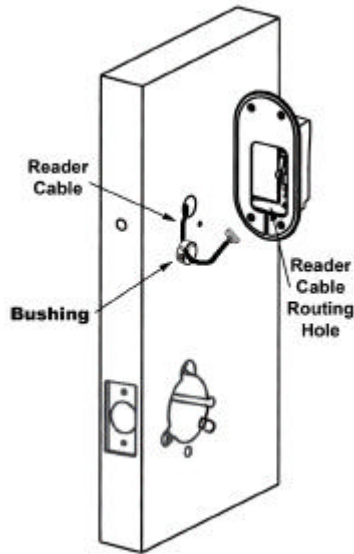
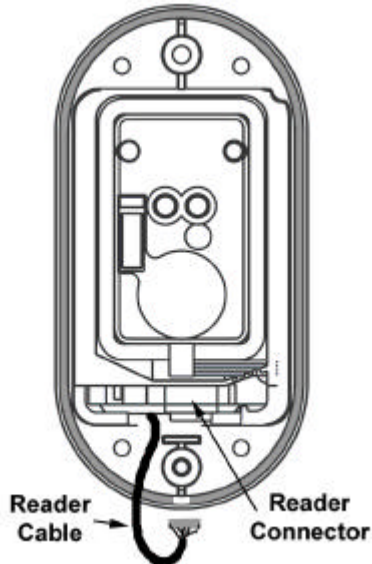

Figure 2-22 – Reader Cable Routing
Figure 2-23 – Reader Cable Connection
2.12.2 Before mounting the Reader, the Reader Cable must be routed through Reader Cable Routing Hole on the Reader Base plate (Figure 2-22).
2.12.2.1 If installing on a metal door, make certain that the plastic Bushing is installed in the Reader Hole on the Reader side of the door (Figure 2-22).
2.12.2.2 Route the Reader Cable from the Reader Hole in the door through the back of the reader into Reader Cable Routing Hole near the bottom of the Reader (Figure 2-22 & Figure 2-23).
2.12.2.3 Connect the Reader Cable to the Reader Connector from the front side of the reader (Figure 2-23).